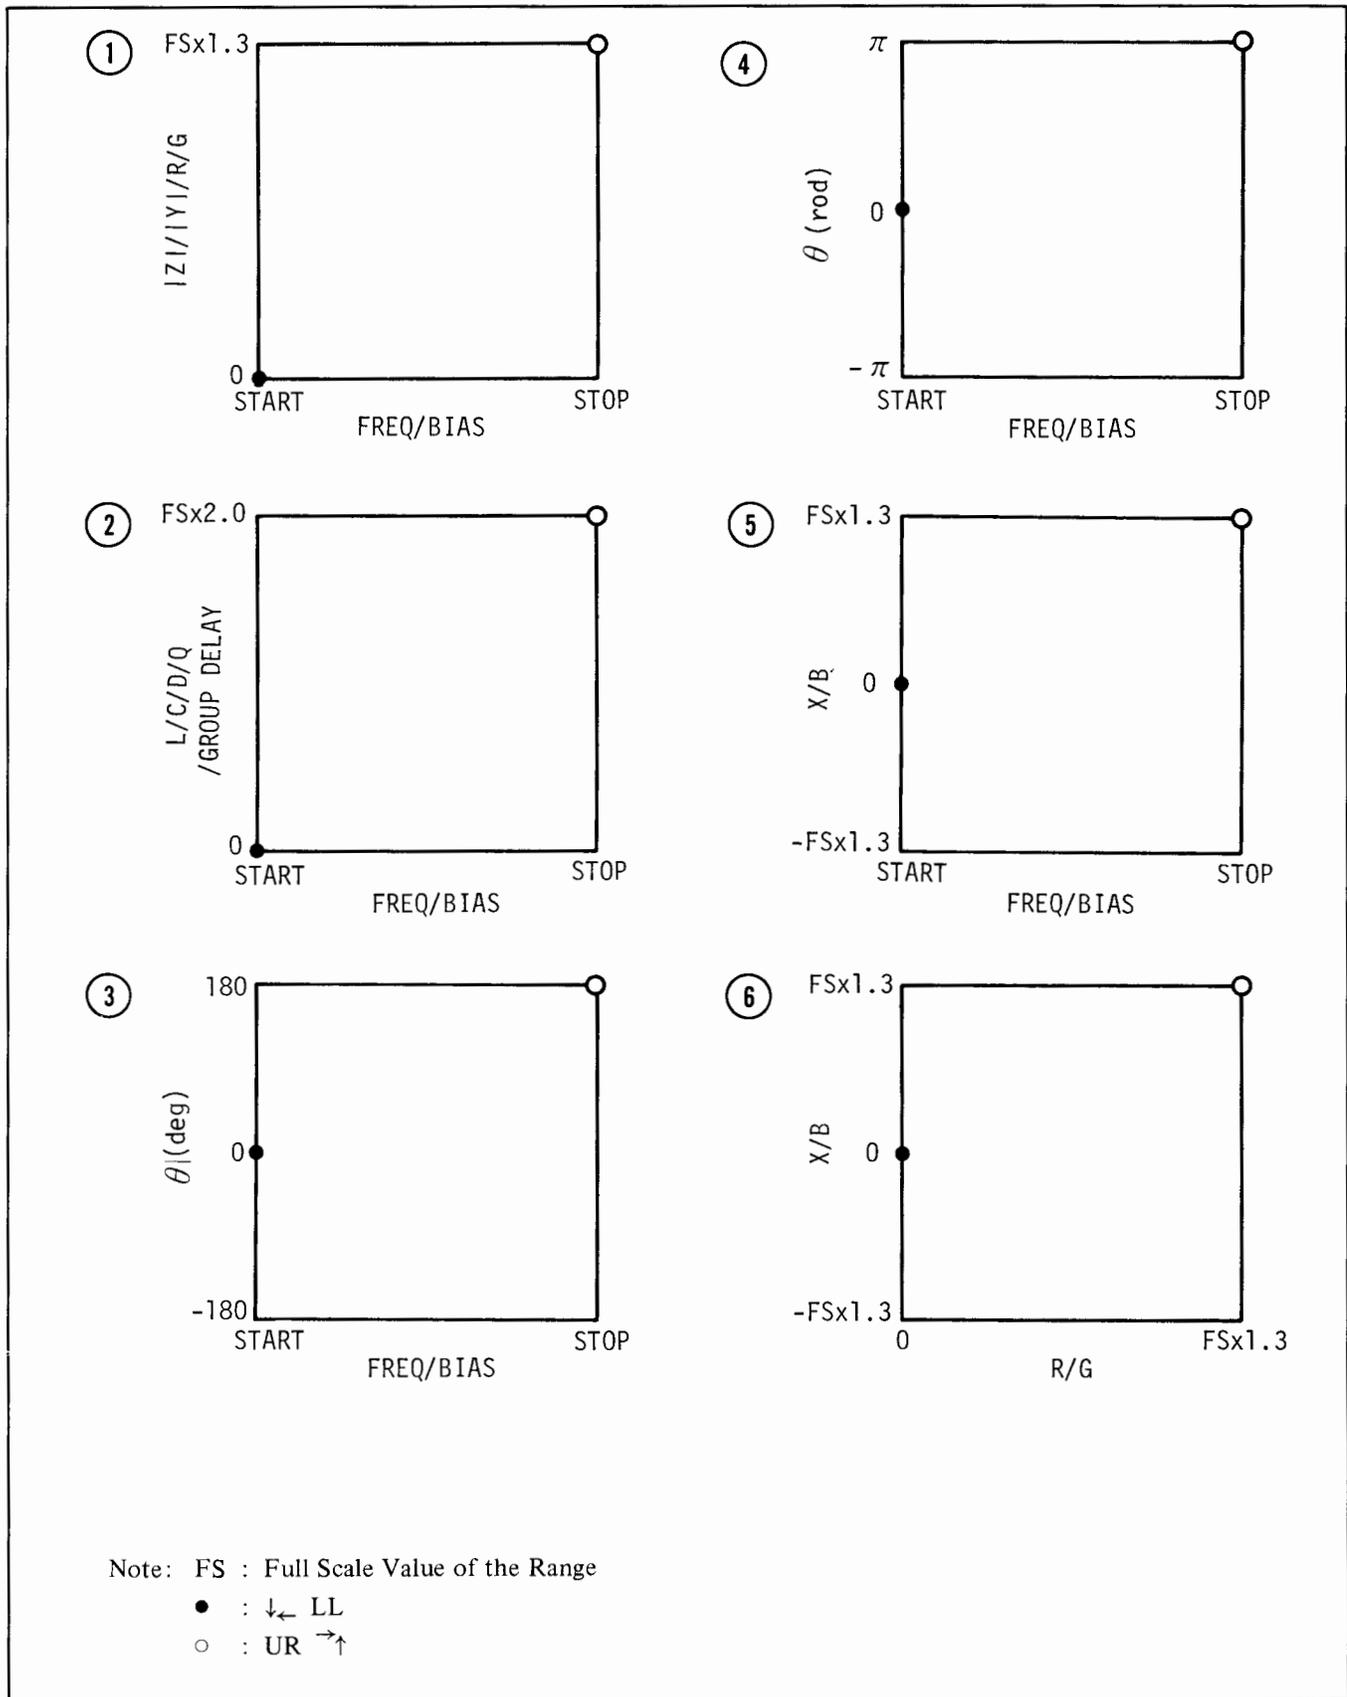

Figure 3-41. Plot Areas of RECORDER OUTPUTS (sheet 1 of 2)
* : These numbers match the numbers of the illustrations in Figure 3-41.